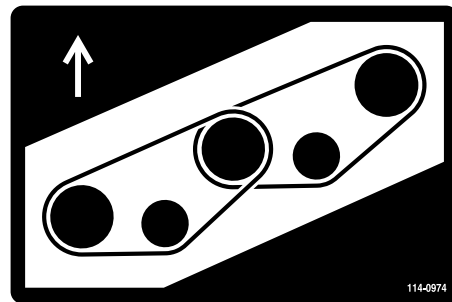
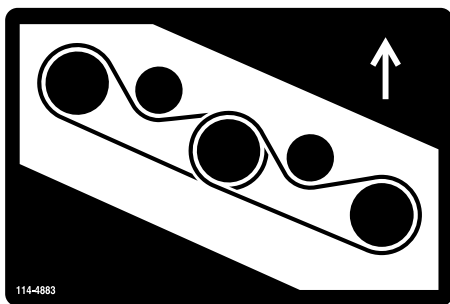

Figure 84
Figure 85
- Route the new belt around the spindle pulleys and idler pulley assembly as shown in Figure 84 and Figure 85.